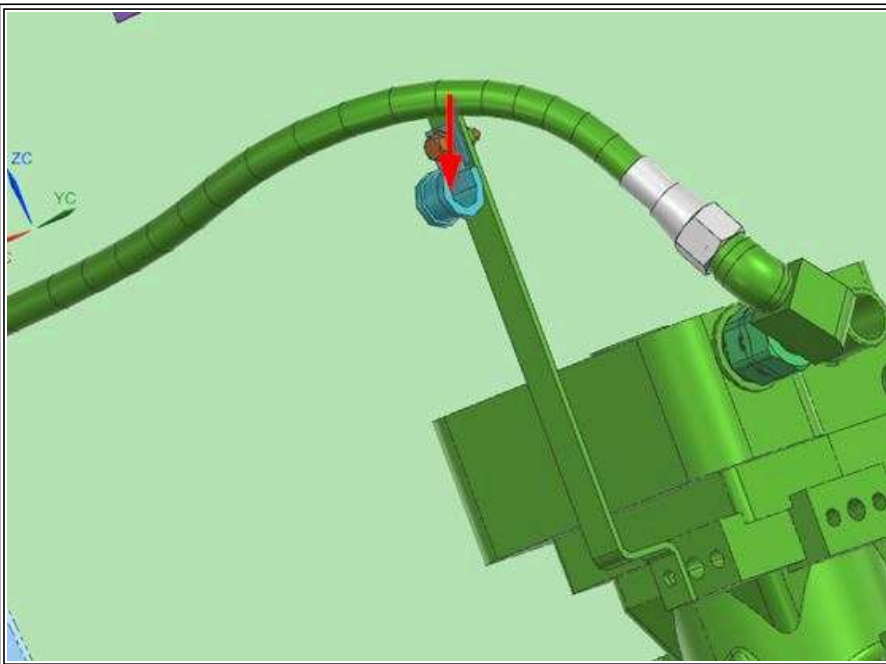

Figure 2
3. Install Teflon Hose, reinstall hose on support clamp bracket (**Figure 2**), and tighten hose ends to 32 - 40 NM